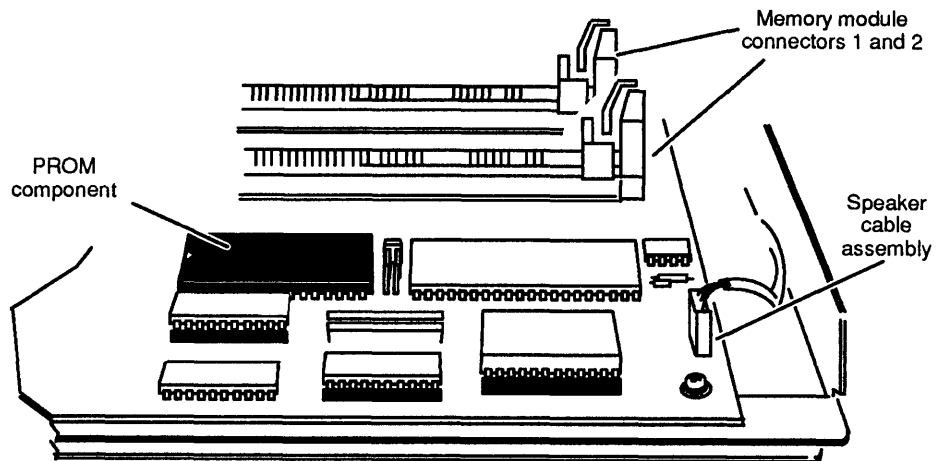

Figure 4-45 Location of the PROM Component on the System Board
6. Locate the PROM component on the system board assembly. Figure 4-45 shows its location.